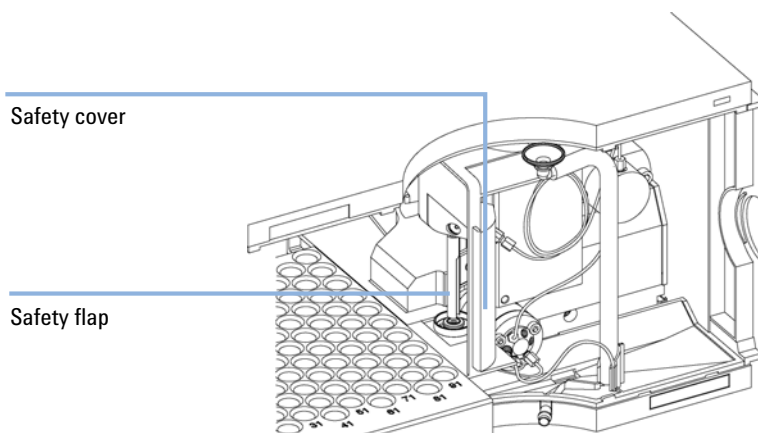

Figure 13 Safety Flap
- Do not bend the safety flap away from its position, or attempt to remove the safety cover (see Figure 13 on page 41).